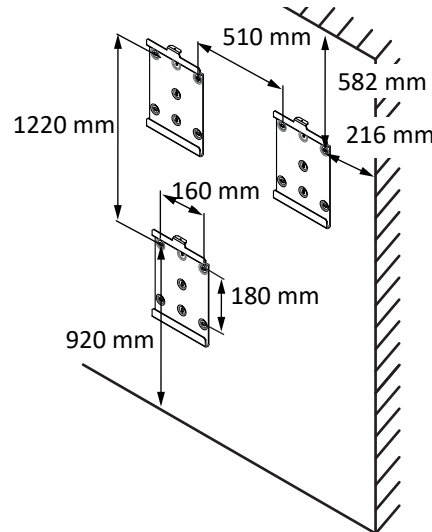

Fig. 13: Wall mounting
- Minimum clearances to be observed during installation: [See figure 13 [▶ Page 18]]